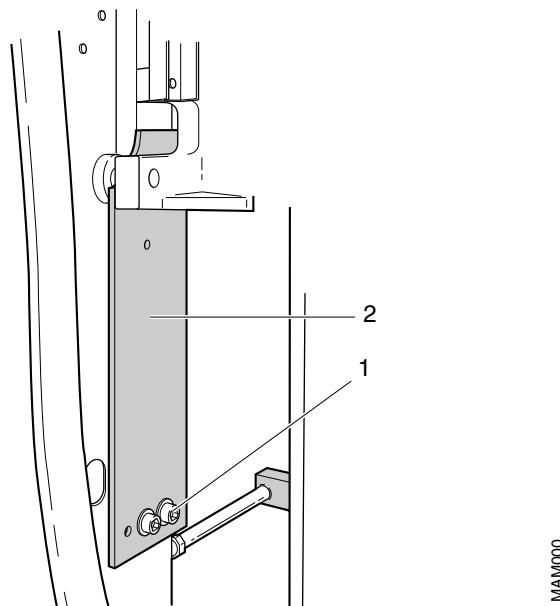

Fig. 5 Transport safeguard for the lifting carriage
1. Loosen the two screws (1/Fig. 5) and remove the red transport safeguard (2/Fig. 5). Reinsert screws (1/Fig. 5); they might be needed for service purposes.
**The lifting carriage transport safeguard shall be kept for service purposes (Fig. 5).**